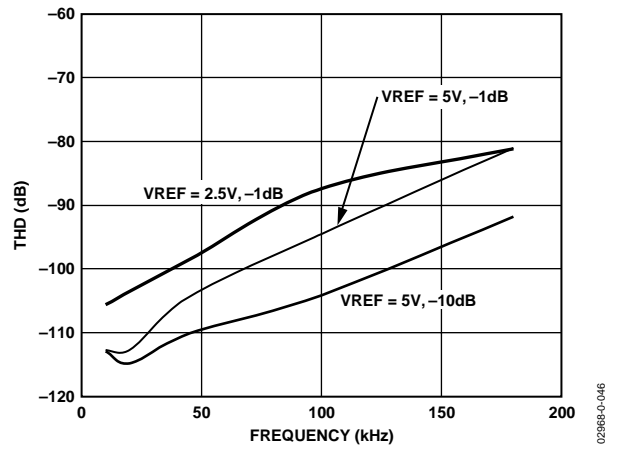

Figure 16. THD vs. Frequency
- For ac applications, the driver should have a THD performance commensurate with the AD7685. Figure 16 shows the AD7685's THD versus frequency.